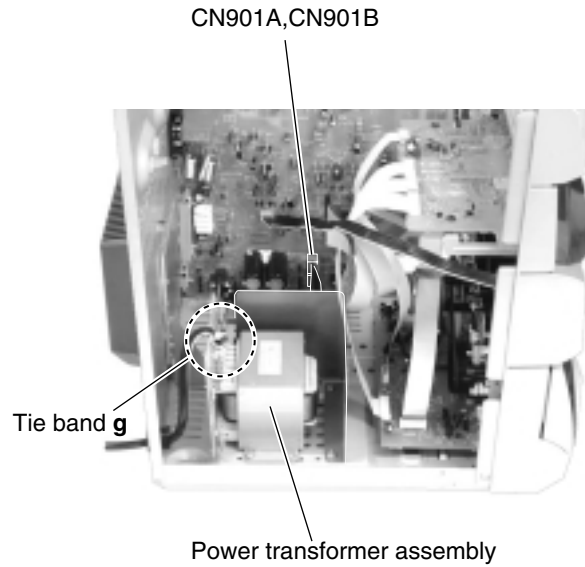

Fig.22
■ Removing the power transformer assembly (See Fig.22 to 24)